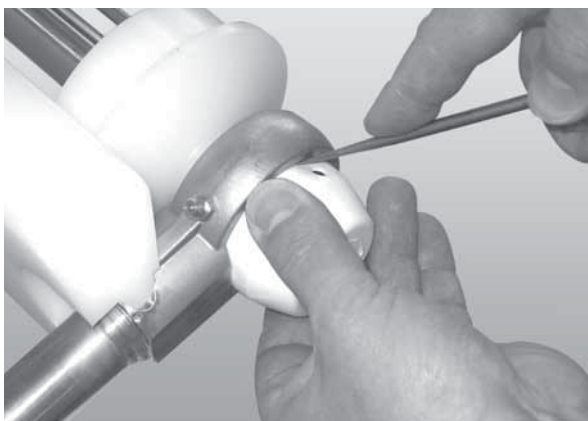

Figure 67
3. Remove the bearing cover (**Figure 67, item 1**).